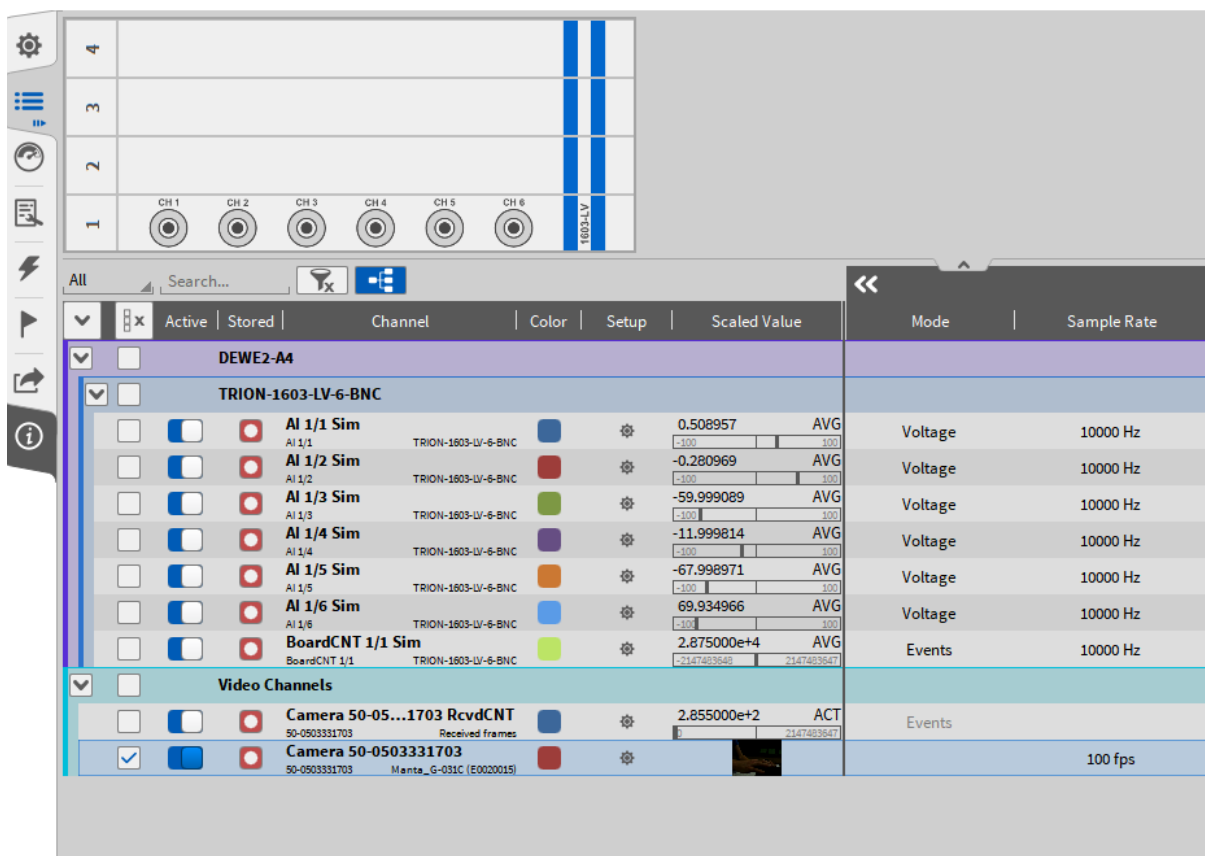

Fig. 8.88: Frame Counter Channel
**Note:** For each connected camera, there exists a counter channel that counts the number of received frames since acquisition start. The channel has the same name as the respective camera with RcvdCNT appended. To activate the counter, you need to activate the channel (The channel is not activated automatically). The channel can be found in the *Video Channels* section of the Channel List (see Fig. 8.88).